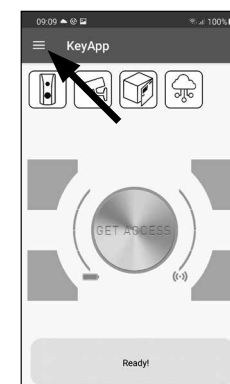

Fig. 27
- 1 Open the main menu (Fig. 27).